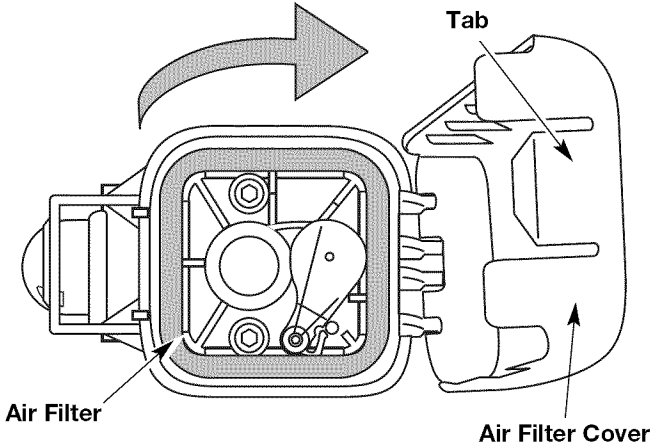

Fig. 21
1. Open the air filter cover. Push the tab on the left side of the cover inward. Then pull the air filter cover out and to the right (Fig. 21).
2. Remove the air filter (Fig. 21).